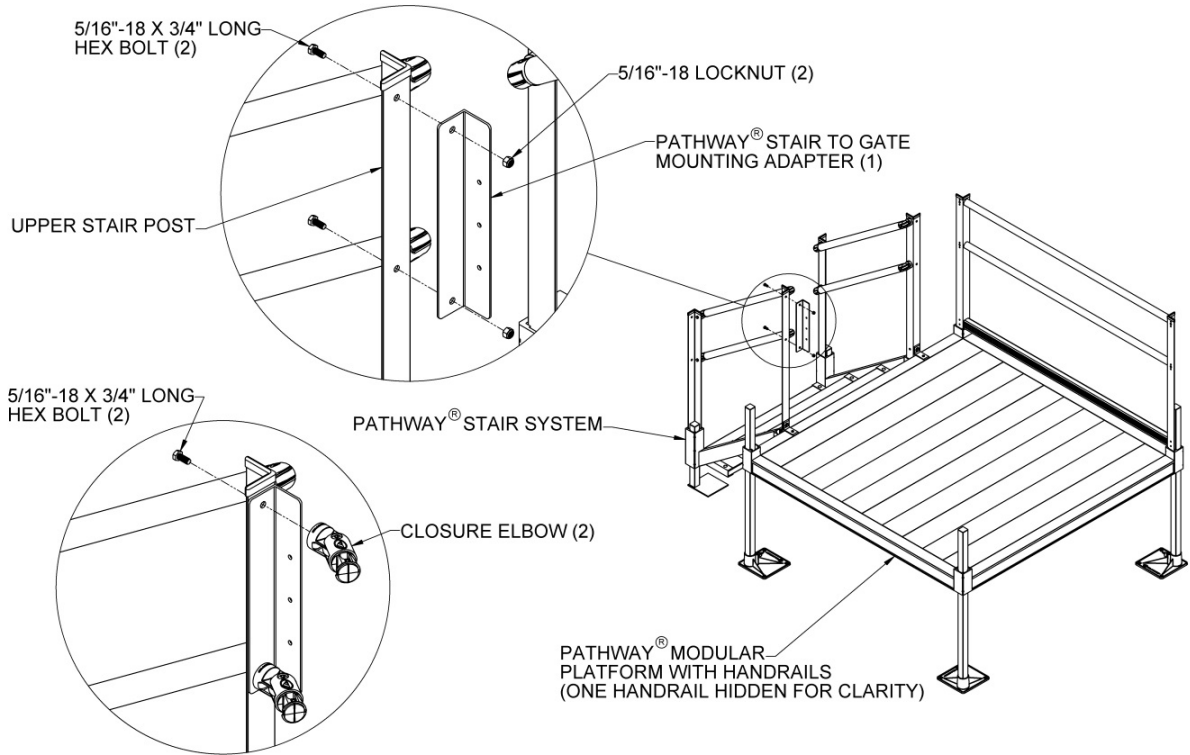

FIG. 7
- 3.3. Locate the Pathway Stair to Gate Mounting Adapter and attach to one of the upper stair posts (depending on which side the gate hinge will mount) using the two 5/16"-18 x 3/4" long hex bolts and 5/16" locknuts. Orient the Pathway Stair to Gate Mounting Adapter with the three smaller holes facing the riser and the bolt on the outside of the platform as shown (see FIG. 7).
- 3.4. If using the Stair to Platform Connector, install two closure elbows (included with the connector) on the platform side of the Pathway Stair to Gate Mounting Adapter instead of the 5/16" locknuts (FIG. 7). Refer to Section 4 for Stair to Platform Connector instructions.